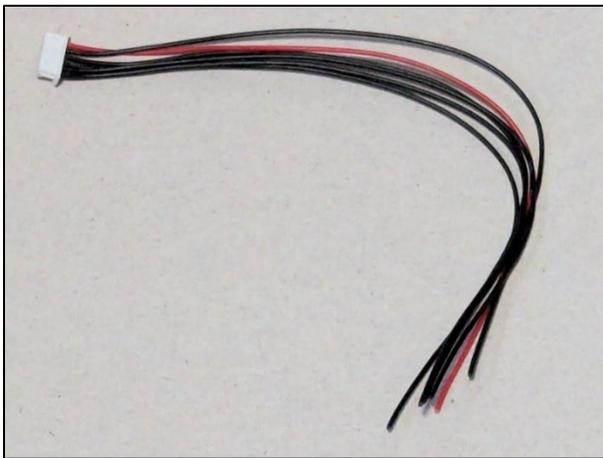

Figure 92 Six-pin cable with one plug removed
1. Cut one end from the six-pin connector that came with the Raspberry Pi as shown in **Figure 92**.